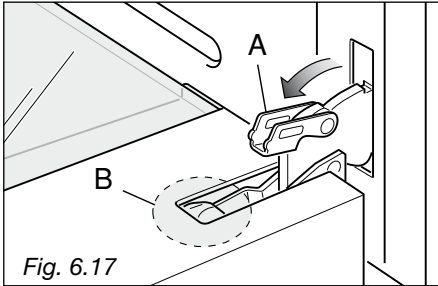
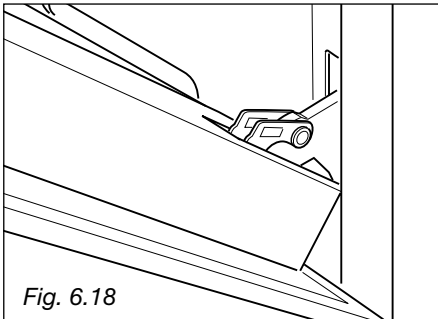

Fig. 6.17
Fig. 6.18
- Open the lever **A** completely on the left and right hinges (fig. 6.17).
- Gently close the door (fig. 6.18) until left and right hinge levers **A** are hooked to part **B** of the door (fig. 6.17).